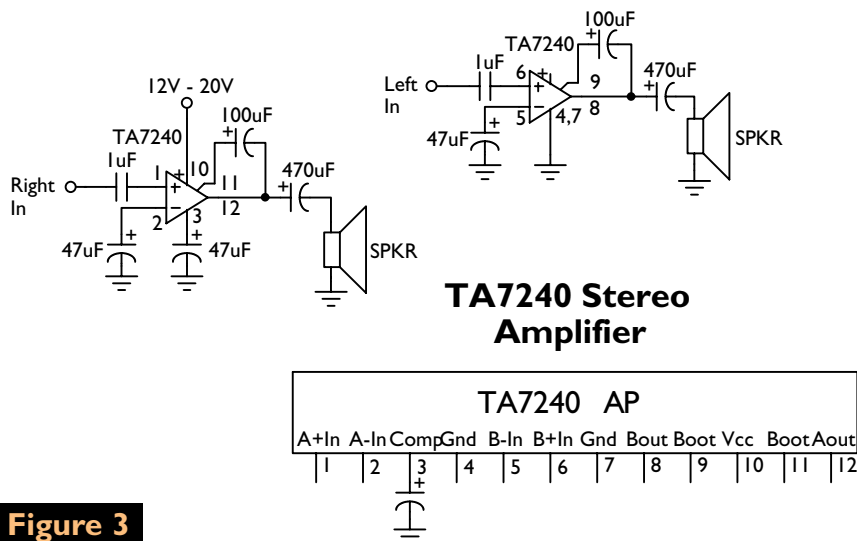

Figure 3
A. The TA7240 is a very popular chip overseas and can be purchased from Donberg Electronics (www.donberg.ie) for about \$6.00. The chip contains two power amps housed in a single, 12-pin plastic package with integral heatsink and is electrically equivalent to the KA2211. The Pinout and typical application of the TA7240 is shown in Figure 3.